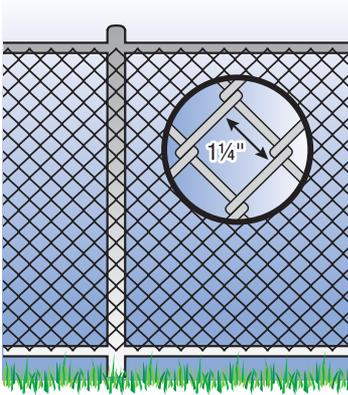

Figure 5
8. **Maximum mesh size for chain link fences** should not exceed  $1\frac{1}{4}$  inch square, unless the fence is provided with slats fastened at the top or the bottom that reduce the openings to no more than  $1\frac{3}{4}$  inches (figures 5 and 6).